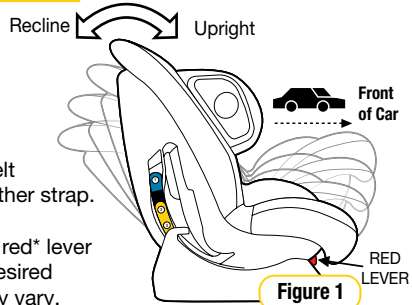

Figure 1
Step 2: At the front of the restraint is a GREY* lever. Pull the red* lever forward and slide the restraint to obtain the desired upright or reclined angle (refer Figure 1). *Colour may vary.